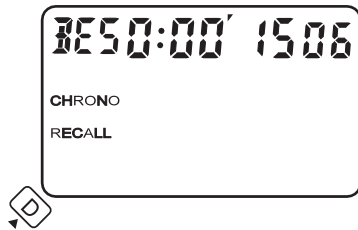

Fig. 13
- Press D again to show the Best LAP time, as shown in Fig.13.